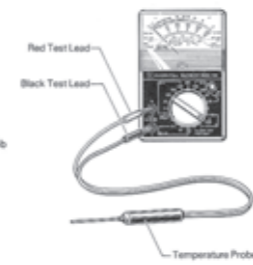

Fig. 4
- (4) Insert red test lead of temperature probe Model 7060 into plus (+) terminal and black test lead into minus (-) terminal (Fig. 4). Read temperature direct from temperature scale. Note: Refrain from measuring the temperature of metal parts having a voltage higher than 50V as it is dangerous.